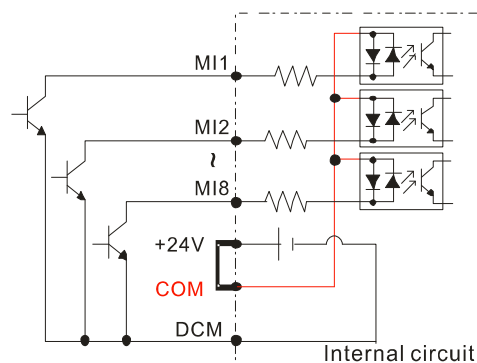
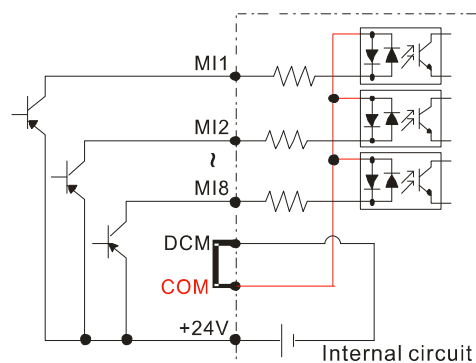

Figure 6-2
Figure 6-3
- ☑ When the photo-coupler uses internal power supply, the switch connection for Sink and Source modes shows as Figure 6-2 and Figure 6-3: MI-DCM: Sink mode, MI-+24V: Source mode.